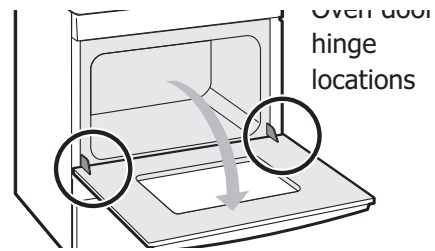

Figure 23: Door hinge location
1. Open oven door completely, horizontal with floor (See Figure 23).
3. Fully open the oven door, horizontal with floor (See Figure 23).